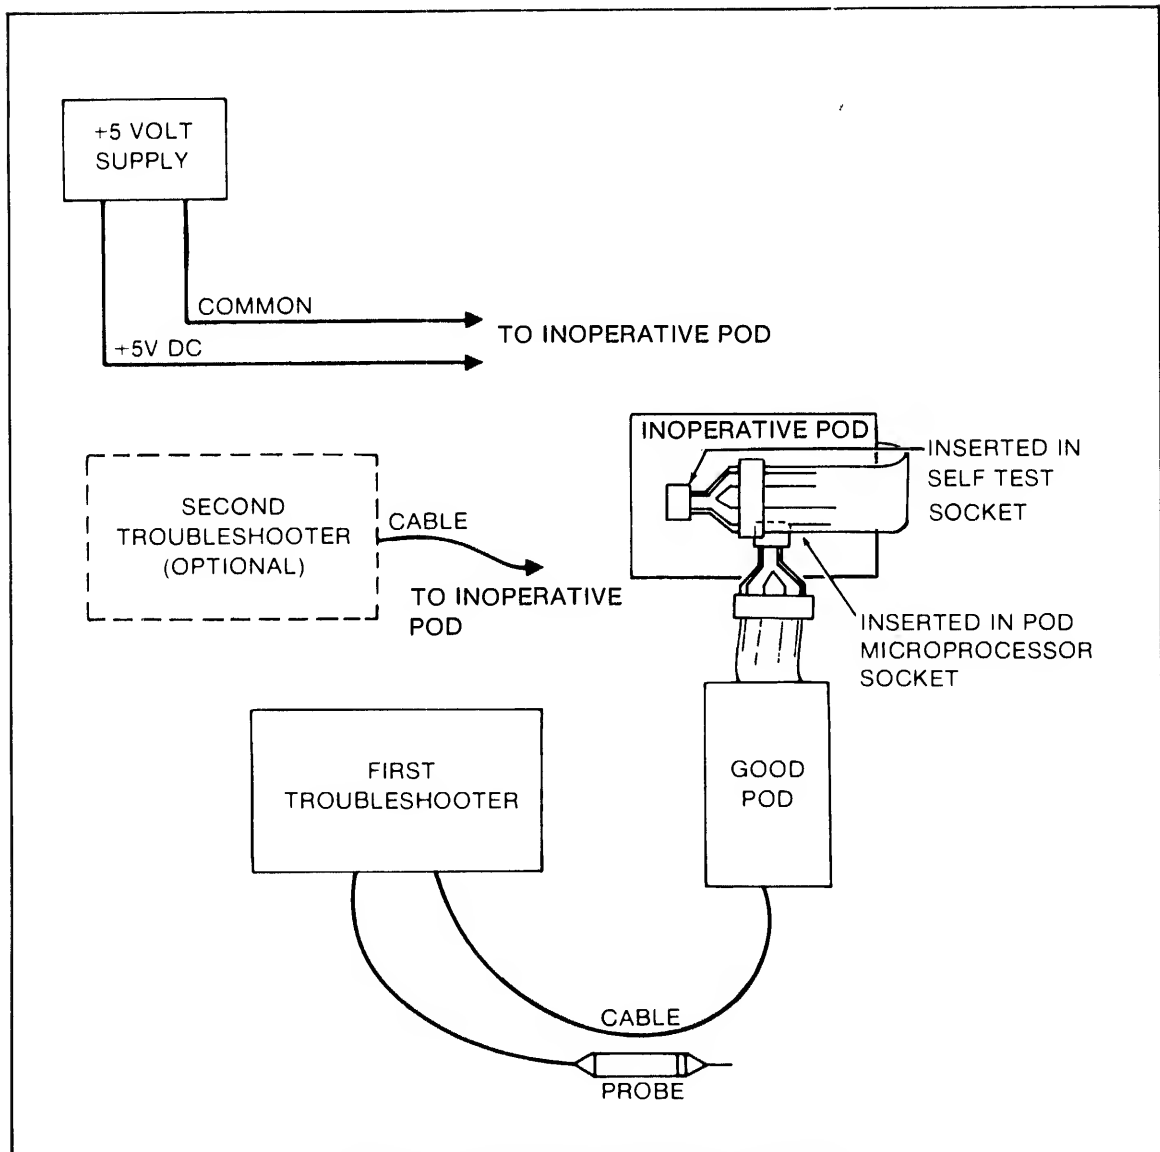

Figure 6-2. Troubleshooting an Inoperative Pod
4. If a second Troubleshooter is available, connect the Pod cable plug from the inoperative Pod to the second Troubleshooter to supply the inoperative Pod with power. If a second Troubleshooter is not available, connect +5V (2 amp) power supply to the Pod as shown in Figure 6-2. An easy place to make the power connections is at the connector that normally connects the cable to the Troubleshooter.
6. Connect the Troubleshooter to the good Pod as shown in Figure 6-2. Apply power to the Troubleshooter, then install the ribbon cable plug of the good Pod into the microprocessor socket of the inoperative Pod.